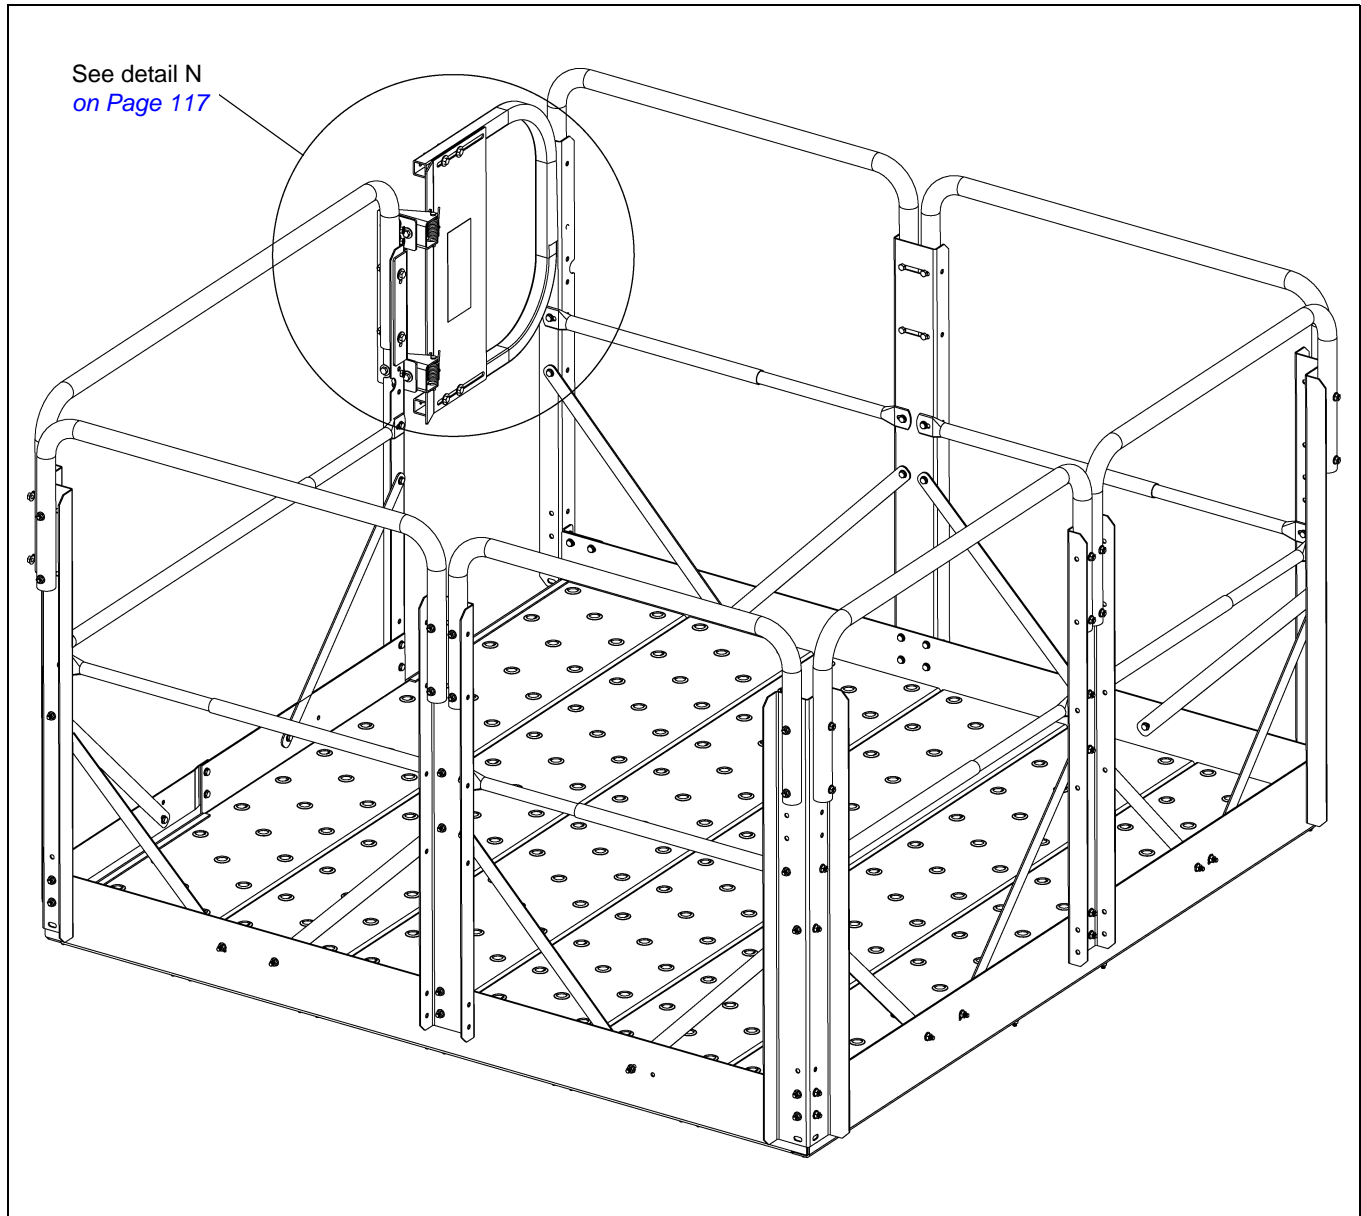
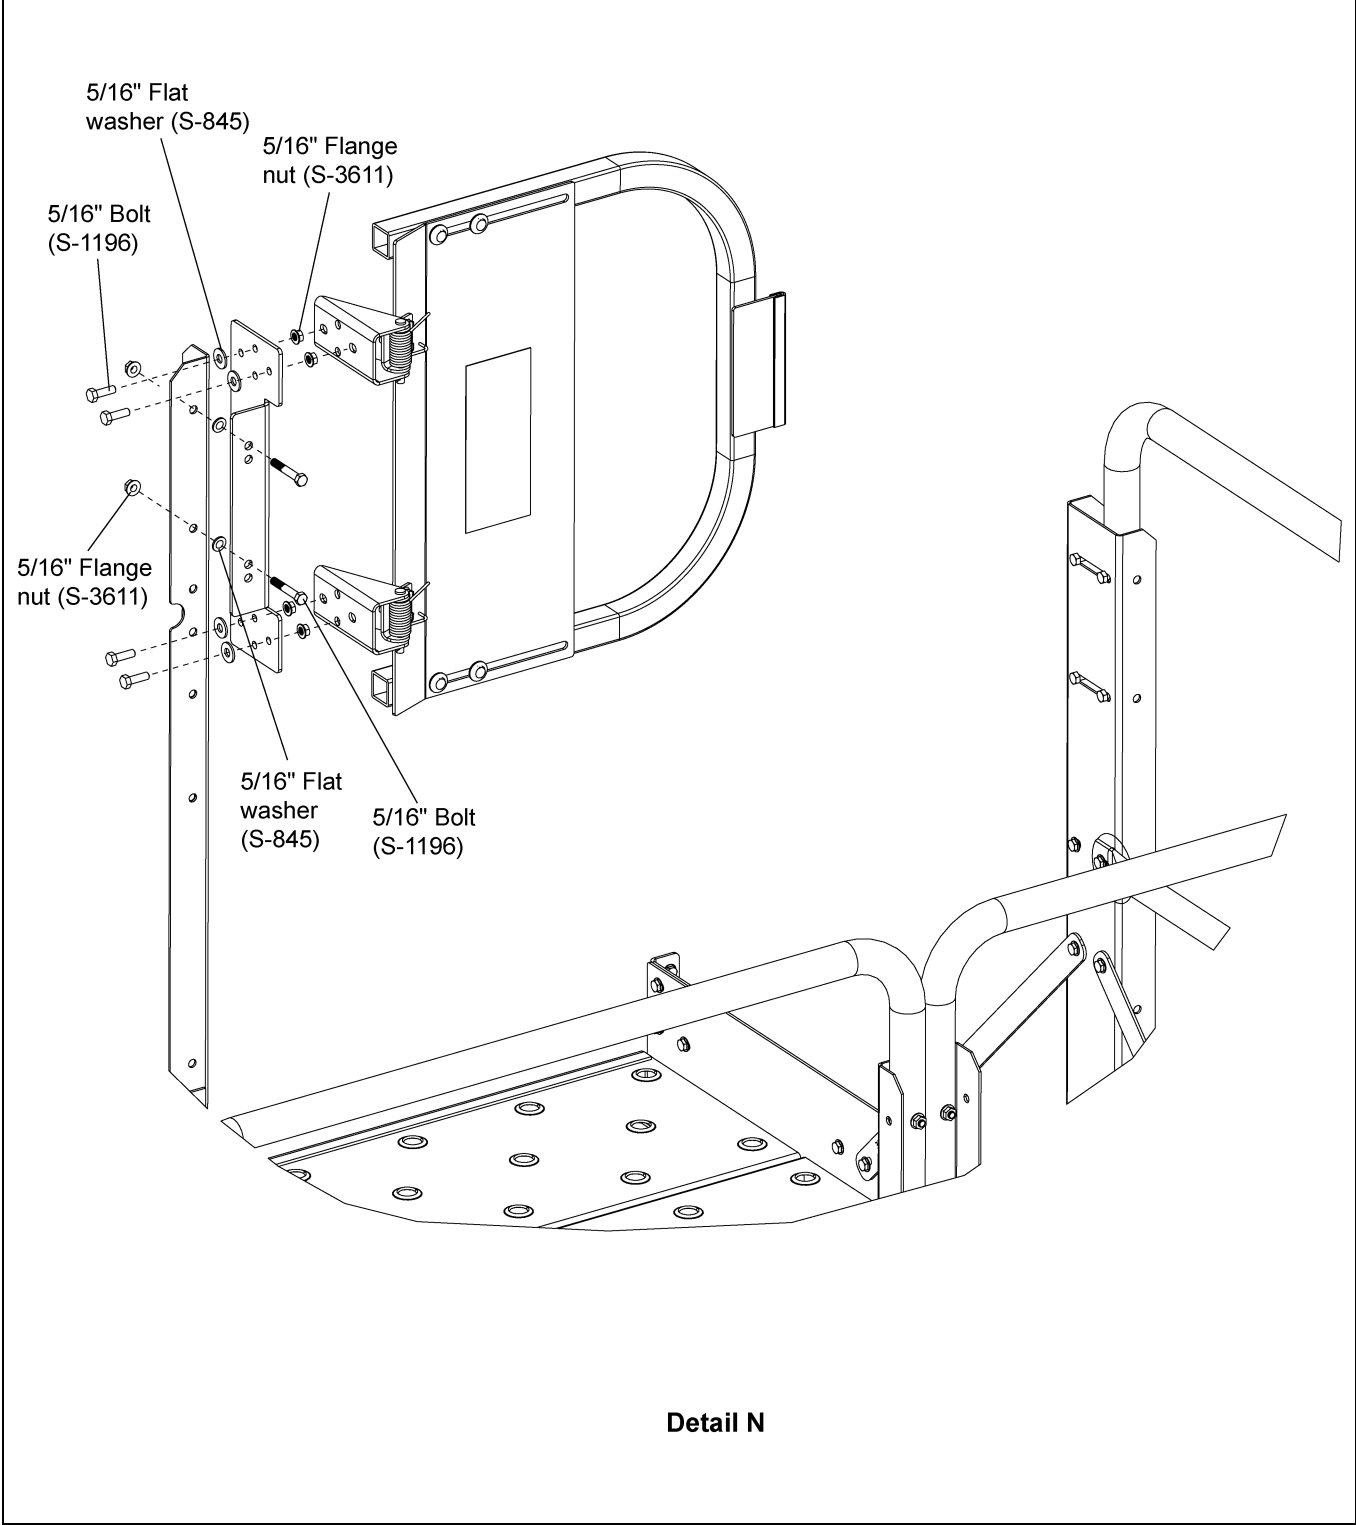

Figure 13P
Figure 13Q
Attach intermediate platform door bracket to two (2) safety gate side posts (HP1648HP) using 5/16" bolt (S-1196), 5/16" flat washer (S-845) and 5/16" flange nut (S-3611). (See Figure 13P below and Figure 13Q on Page 117.)